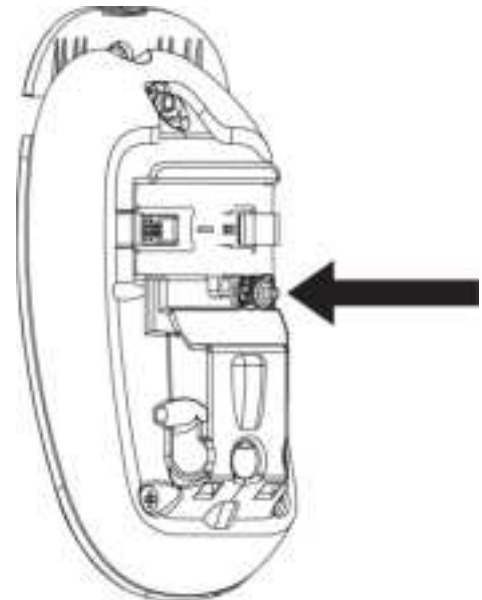

**Figure 6** Install the battery
6. Install the battery per Figure 6.